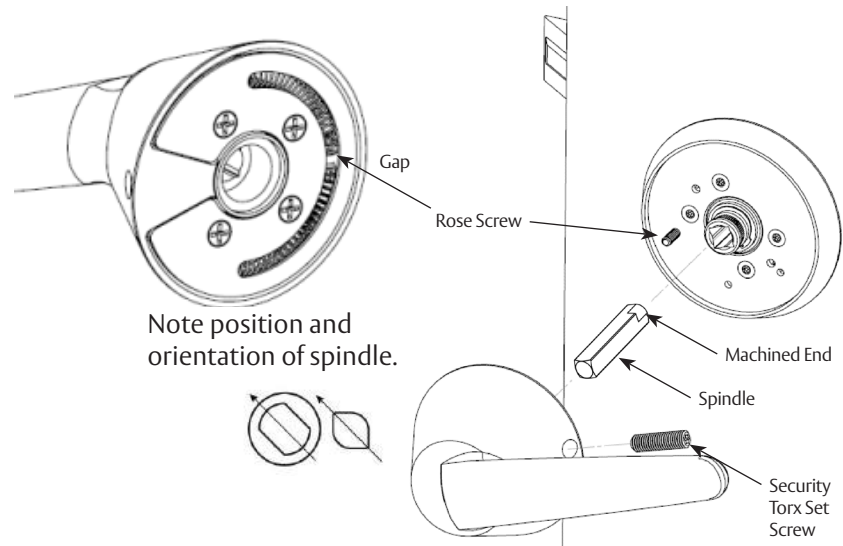

Figure 13
- Install inside Spindle. (Figure 13)
- Make sure machined end of spindle seats into clutch adapter before assembling lever onto rose. (Figure 13)